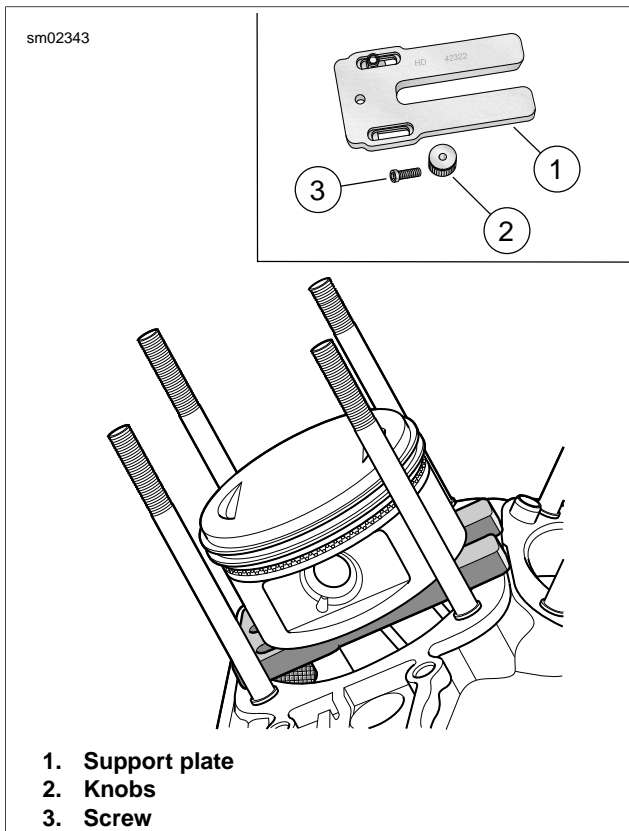
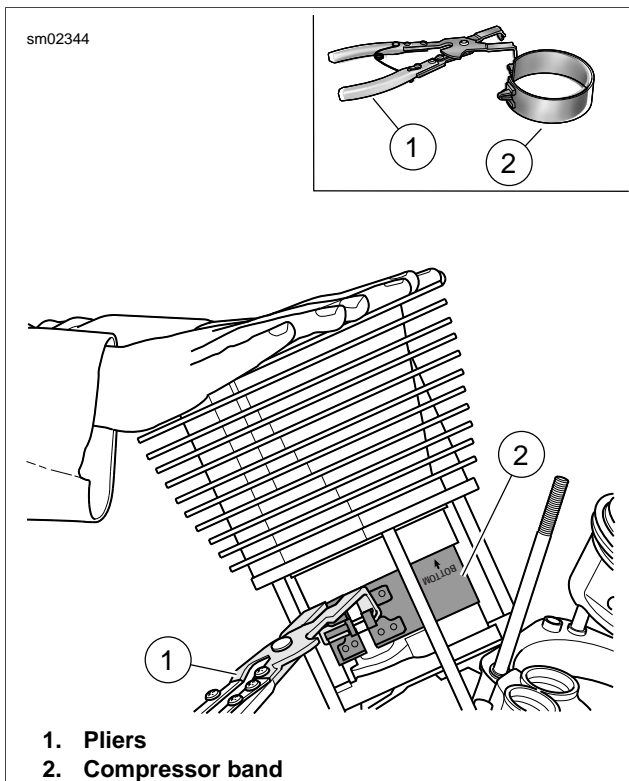

Figure 3-36. Piston Support Plate
Figure 3-37. Piston Ring Compressor
6. See Figure 3-36. Install the PISTON SUPPORT PLATE (Part No. HD-42322).
- a. Slide both adjustable knobs (2) on support plate (1) down away from forked end. Tighten knobs when contact is made with flats at end of slots.
7. See Figure 3-37. Install cylinder using PISTON RING COMPRESSOR (Part No. HD-96333-51E).
- a. Fit tabs on pliers (1) into slots of ring compressor band (2). The arrow stamped on the band indicates the side that faces up, so disregard the word "bottom". Place band around piston. Press the lever on the right side of the pliers to open the jaws for band expansion.